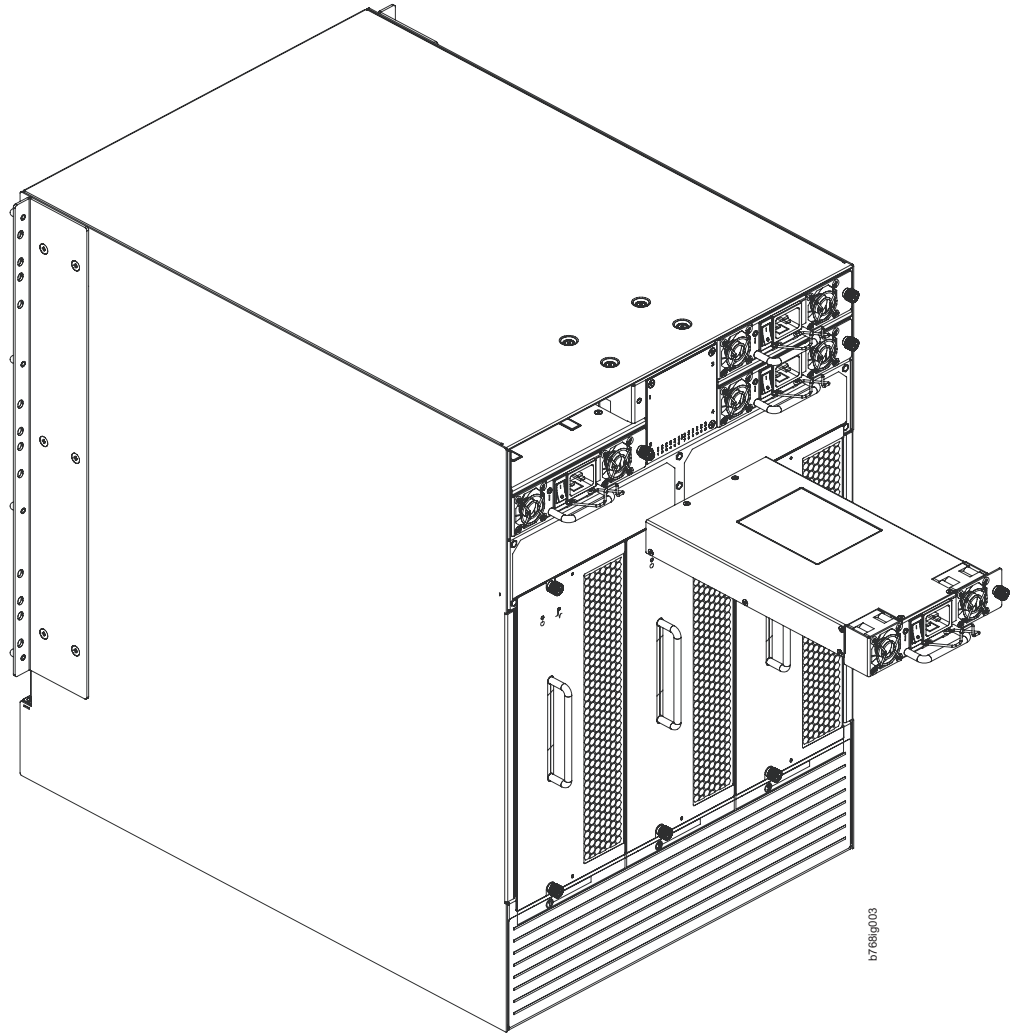

Figure 35. Removing and installing a power supply
5. Grasp the handle and pull, sliding the power supply from the chassis, supporting the power supply from beneath as you remove it. (see Figure 35 on page 85).